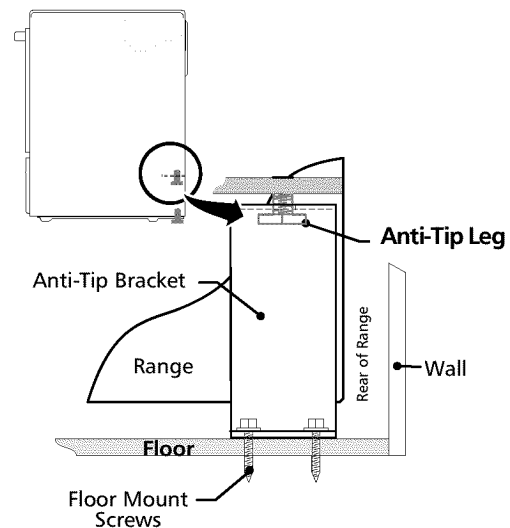

Figure 10
4. Remove template and place bracket on floor. Line up holes in bracket with marks on floor and attach with 4 screws provided. Bracket must be secured to solid floor (figure 10). If attaching to concrete floor, first drill 3/16" dia. pilot holes using a masonry drill bit.